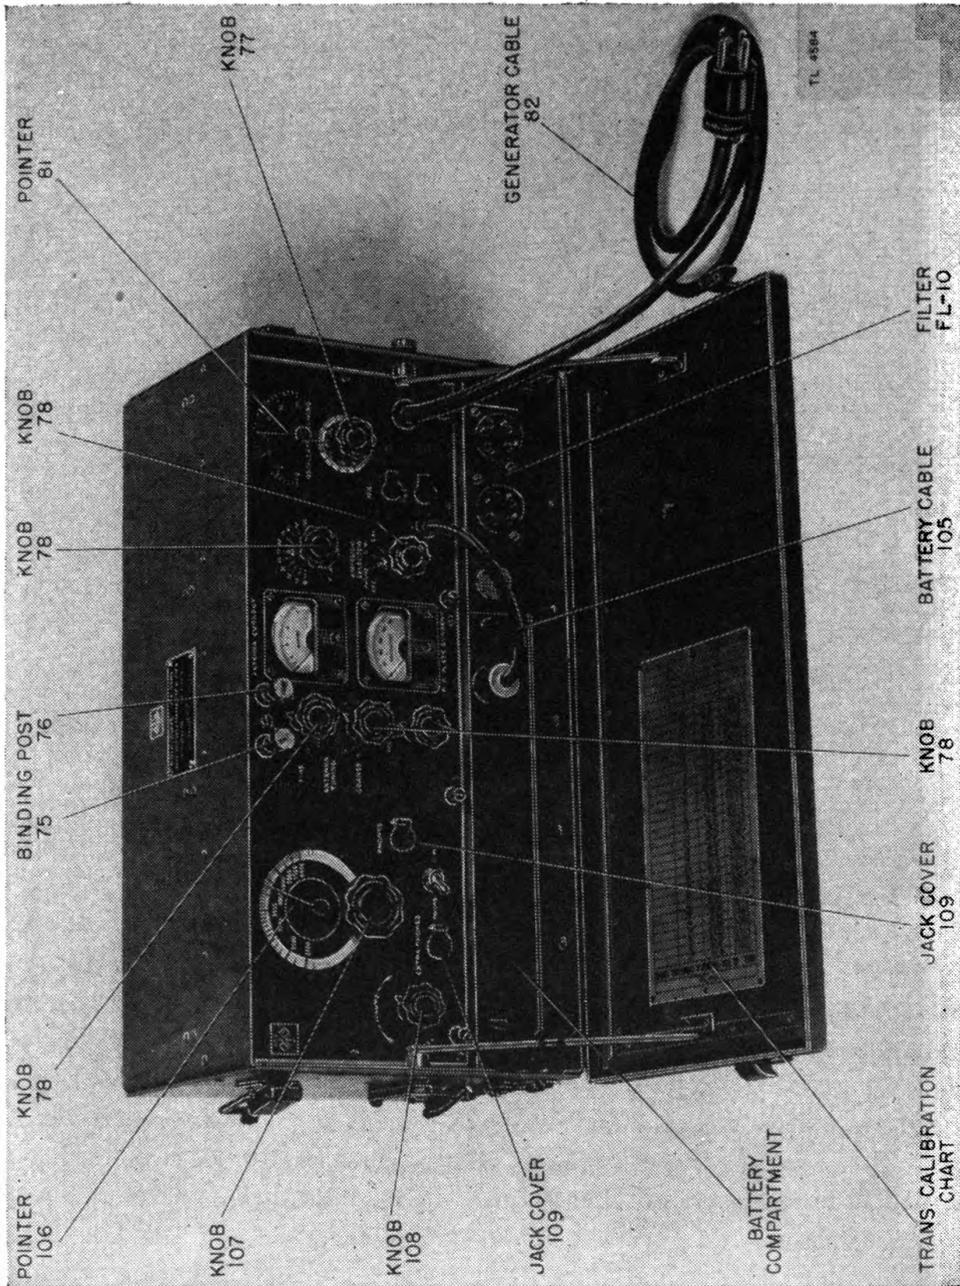

FIGURE 6.—Radio receiver and transmitter BC-474-A—front view.
d. Transmitter operation (see fig. 6).—After the equipment is set up the transmitter is placed in operation as follows:
(1) Determine (directly or by interpolation) from calibration chart which is inside the lid of the receiver-transmitter the setting of the OSCILLATOR TUNING control. (The digits on the left of the hyphen refer to the setting of the pointer 81; those on the right refer to the setting of the dial attached to knob 77.) Adjust OSCILLATOR TUNING control to required setting by turning knob 77.
(2) Place EMISSION SELECTOR switch (marked OFF, PHONE, C. W., CAL.) to PHONE position, and REC-TRANS switch to TRANS position. Have an assistant operate the generator as described in *f* below.
(3) As soon as the tubes are warmed up (indicated by a deflection of the P. A. PLATE CURRENT meter), tune power amplifier plate